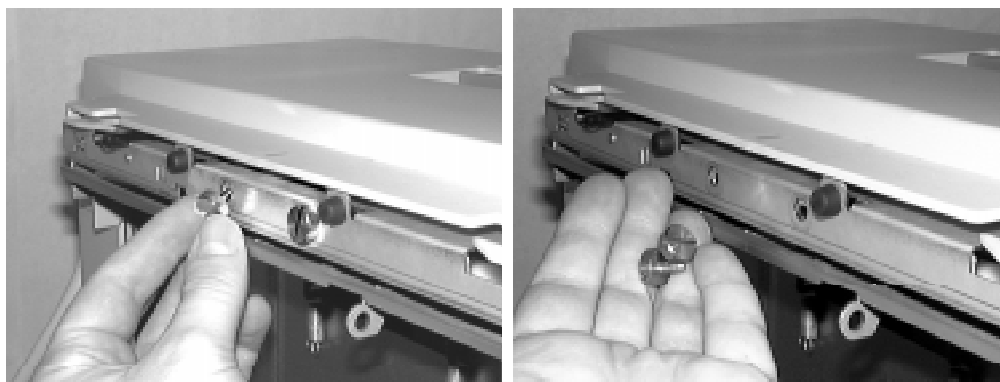

Figure 4-61 Unscrew Thumbscrews and remove
7. With your other hand, locate the two thumb screws on the back side of the HCI, as shown in Figure 4-61. Remove these two screws (turn counterclockwise) and set them aside.